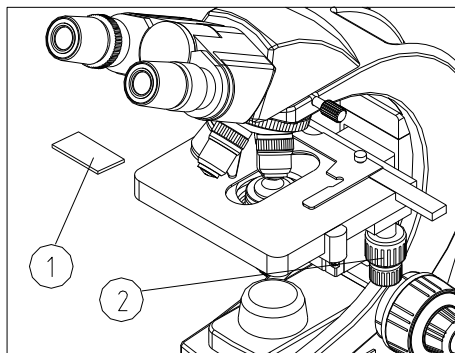

Fig. 15
Place the specimen ① on the center of the stage and use the slide holder to gently secure the slide (Fig 15).